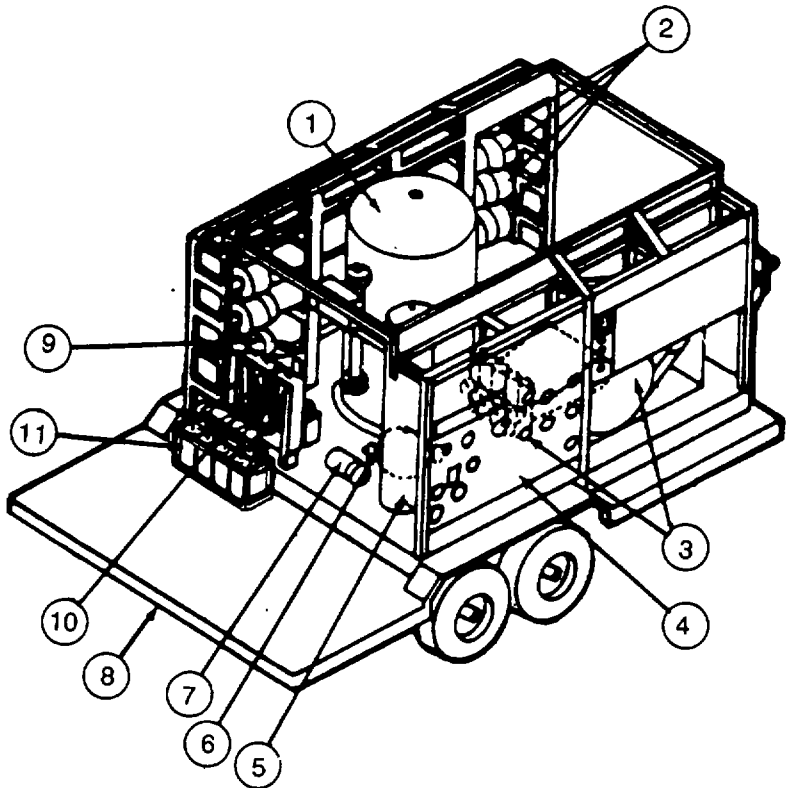

Figure 1-13. ROWPU - Generator Removed (Rear View)
e. Figure 1-13 identifies the following parts: